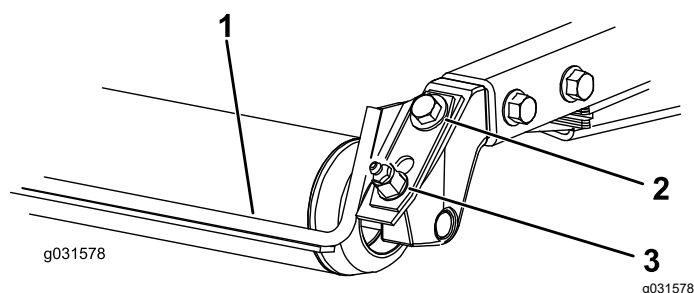

Figure 3
1. Loosen the grease fitting and the mounting screw (Figure 3).